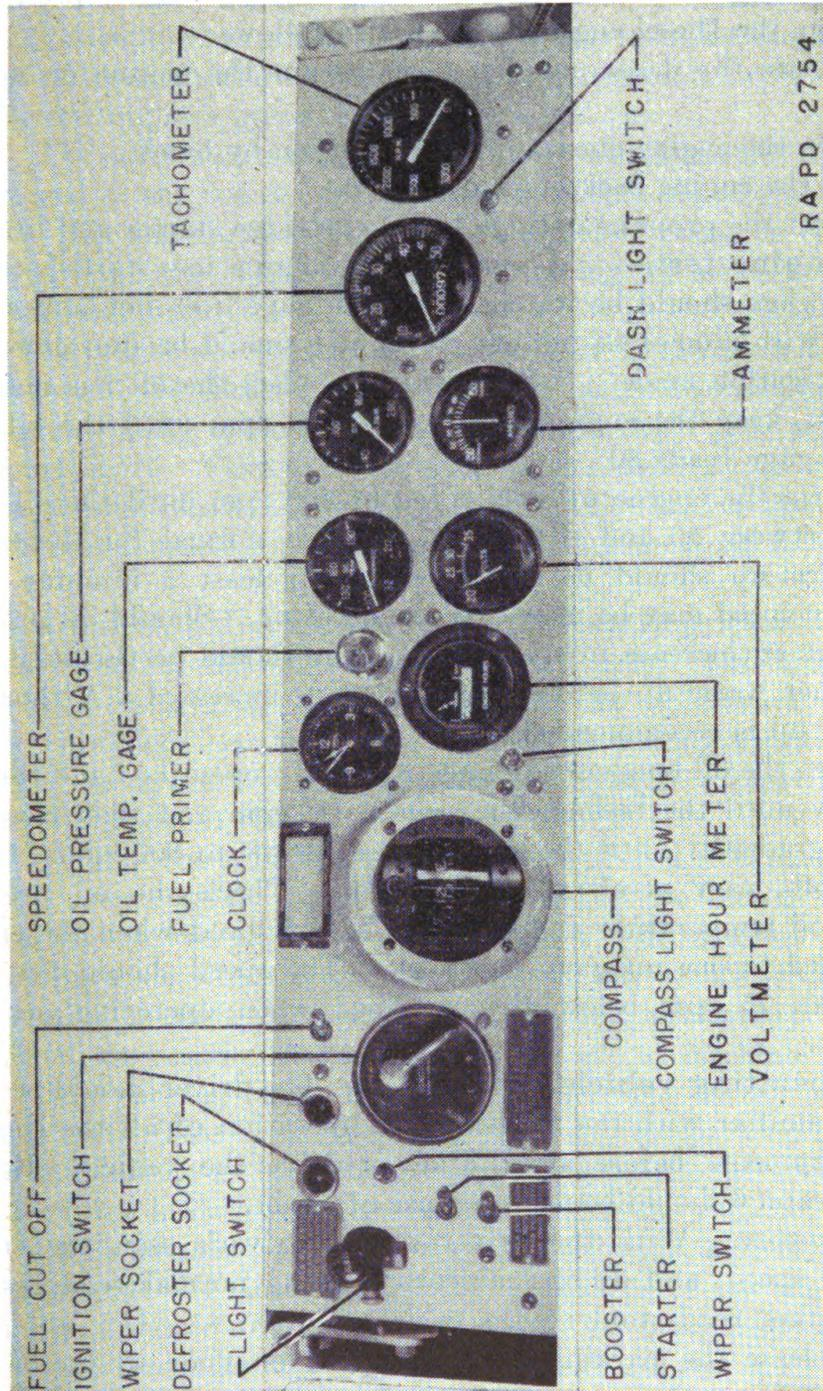

FIGURE 8.—Instrument panel.
a. Give the engine several strokes of the priming pump located on the instrument panel (fig. 8). Excessive priming should be avoided, since it has a tendency to wash lubricant off the cylinder walls and thus cause excessive wear and damage. Do not prime through exhaust ports or spark plug holes with raw gasoline. Do not prime a hot motor.
c. Operate the starter. Turn the ignition switch to the “both” position and press the booster coil switch located on the instrument panel (fig. 8).
(1) Check all instruments to see that they are functioning and showing the proper readings.
(2) Check for loose parts.